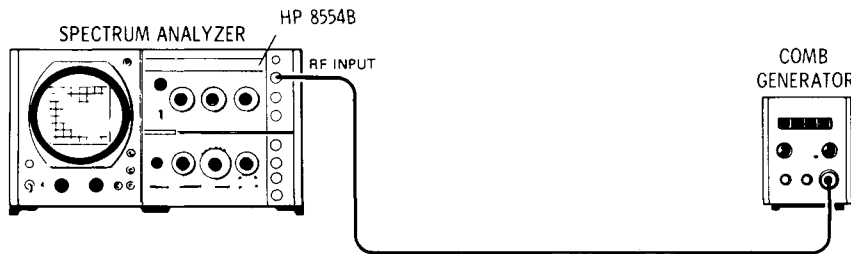

Figure 4-9. Scan Width Accuracy Tests 100 MHz/Div
1. Connect the test setup in Figure 4-9 and make the following control settings: